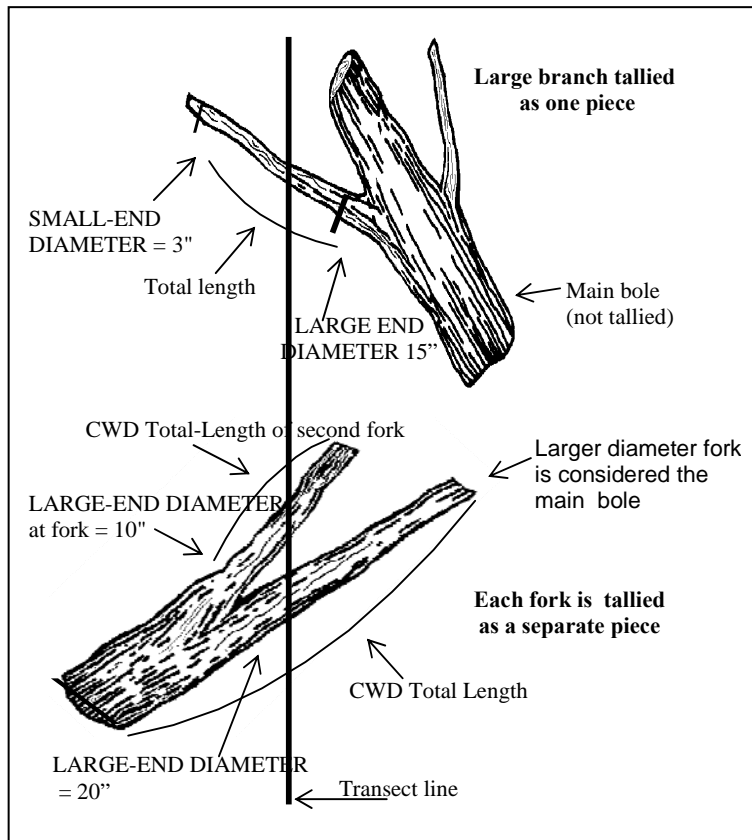

Figure 25-6. CWD tally rules for forked trees.
12. In the case of forked trees, consider the "main bole" to be the piece with the largest diameter at the fork. Variables for this fork such as TOTAL LENGTH and DECAY CLASS should pertain to the entire main bole. For smaller forks or branches connected to a main bole (even if the main bole is not a tally piece), variables pertain only to that portion of the piece up to the point where it attaches to the main bole (see fig. 25-6).